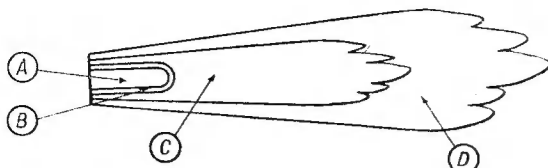

Fig. 1. The oxy-acetylene flame. A—Inner cone of unburned gas. B—Luminous inner cone. C—Reducing zone—hottest point of flame. D—Outer zone
It may be quite definitely stated that if the brazing is to be carried out with ordinary "spelter" or brass—that is to say, copper-zinc alloy—then the oxy-acetylene flame is unsuitable. This is because of the difficulty of avoiding the heating of the melted brazing metal to such a high temperature that the zinc which it contains will actually "boil" and be driven off as a gas, leaving the joint porous and weak. Such spelters are only suitable for the lower temperature, diffused flames of the blow-lamp or air-gas blow-pipe. The operator must understand the nature of the oxy-acetylene flame, and the diagram Fig. 1, shows that it consists of an inner region containing unburnt gas which is enclosed in a highly luminous cone. This cone is surrounded by a region in which the hottest part of the flame occurs, just in front of the luminous cone. This region is, in turn, surrounded by the outer envelope of the flame in which the heat is not so fierce. For true autogenous welding, the hottest part of the flame is used, close to the luminous cone. It is possible, however, to use the much larger and more diffused outer envelope of the flame, moving it about over a comparatively wide radius, to raise a considerable area of the work to a temperature only sufficient for a lower-melting joint medium, such as silver-solder. I have even used the oxy-acetylene flame for soft-soldered joints in tender tanks, etc. I used the extreme tip of the outer envelope of a very small flame, and applied it to the back of the joints so that the solder and the flux were not directly heated by the flame. The oxy-acetylene flame can, therefore, be used in two ways: (1) to raise a small area to a very high temperature, using the inner region of the flame, with very little movement, which is the "welding"